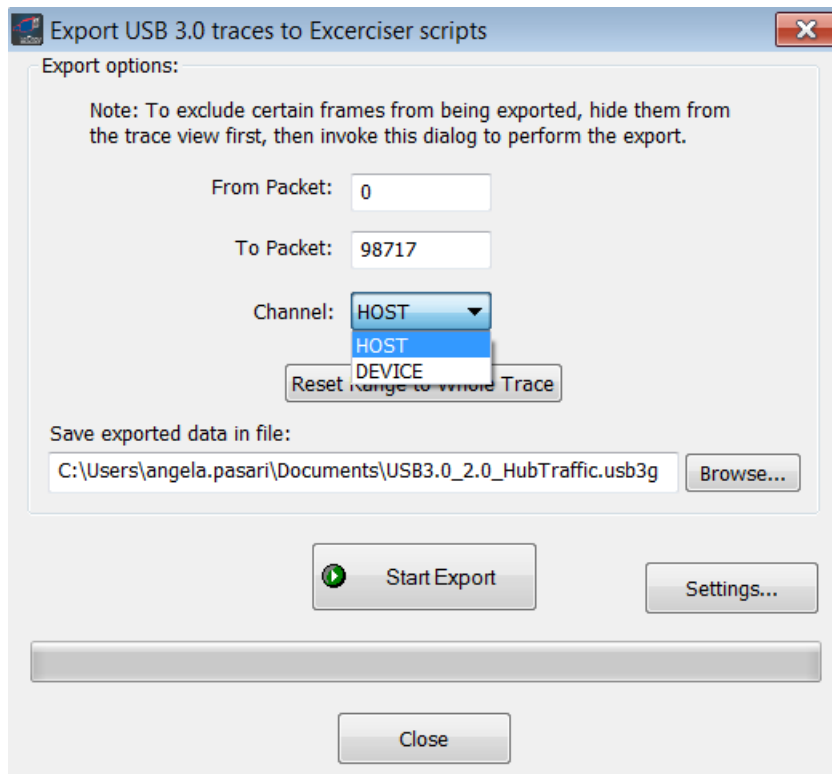

Figure 12.13: Export Dialog
2. Click the **Export to Script**  button or select **File > Export > Packets to USB 3.0 Exerciser Script(.usb3g)** to display the Export Usb 3.0 Traces to Exerciser scripts dialog (see Figure 12.13 on page 372).